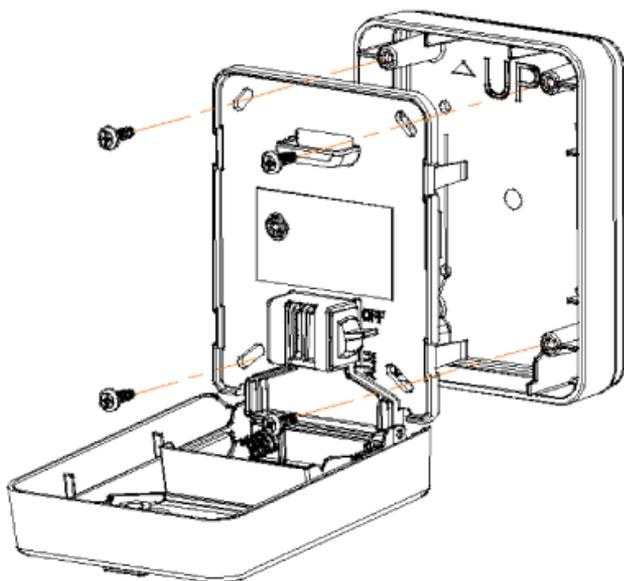
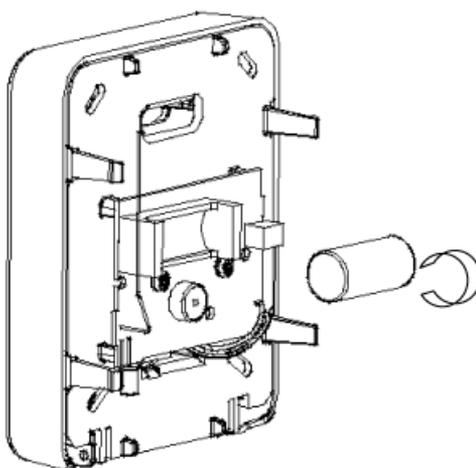

Figure 2
Figure 3
The mounting surface should be relatively flat and capable of accepting screws or anchors. The 310 is to be installed in an indoor dry location. Exposure to weather or corrosive conditions may damage the unit. The Pull Station must be mounted on a vertical surface so that the wording on the pull station front can be read correctly. **Perform the signal test described in this manual prior to and after permanently mounting the unit.** Fasten the back box to the mounting surface using four #8 screws that are appropriate for the wall type or anchor. The correct orientation of the back box is with the arrows inside the box pointing up (figure 2). Install the battery in the battery holder observing the polarity markings then push the retaining clip around the battery and snap it onto the battery holder (figure 3). If the Pull Station has already been enrolled a power up reset trouble will be indicated on the FACP. Carefully push the front assembly on to the back box until it snaps into place. Be careful not to bend the transmitter's antenna. Secure the pull station front onto to the back box as shown in figure 2 using the four #8 screws provided. **Do not over tighten the**
2. Open the Pull Station door using the key provided. This will not cause an alarm. Separate the Pull Station front from the back by removing the 4 screws in figure 2. A tamper trouble will be indicated on the control panel when the Pull Station front and back are separated. Remove the battery retaining clip then remove the battery and dispose of properly.
4. Install the new battery in the battery holder then push the retaining clip around the battery and snap it onto the battery holder (figure 3). Observe the polarity diagram inside the battery holder. A power up reset trouble signal should be indicated on the FACP upon installation of the new battery.
5. Carefully push the front assembly on to the back box until it snaps into place (figure 2). Be careful not to bend the transmitter's antenna. Secure the pull station front onto to the back box using the four #8 screws provided. **Do not over tighten the screws.** Close and lock the pull station using the key provided.
7. If the Pull Station does not function for alarm operation as described in item 6 then start over at step 2. If it still doesn't operate correctly then replace the entire unit.